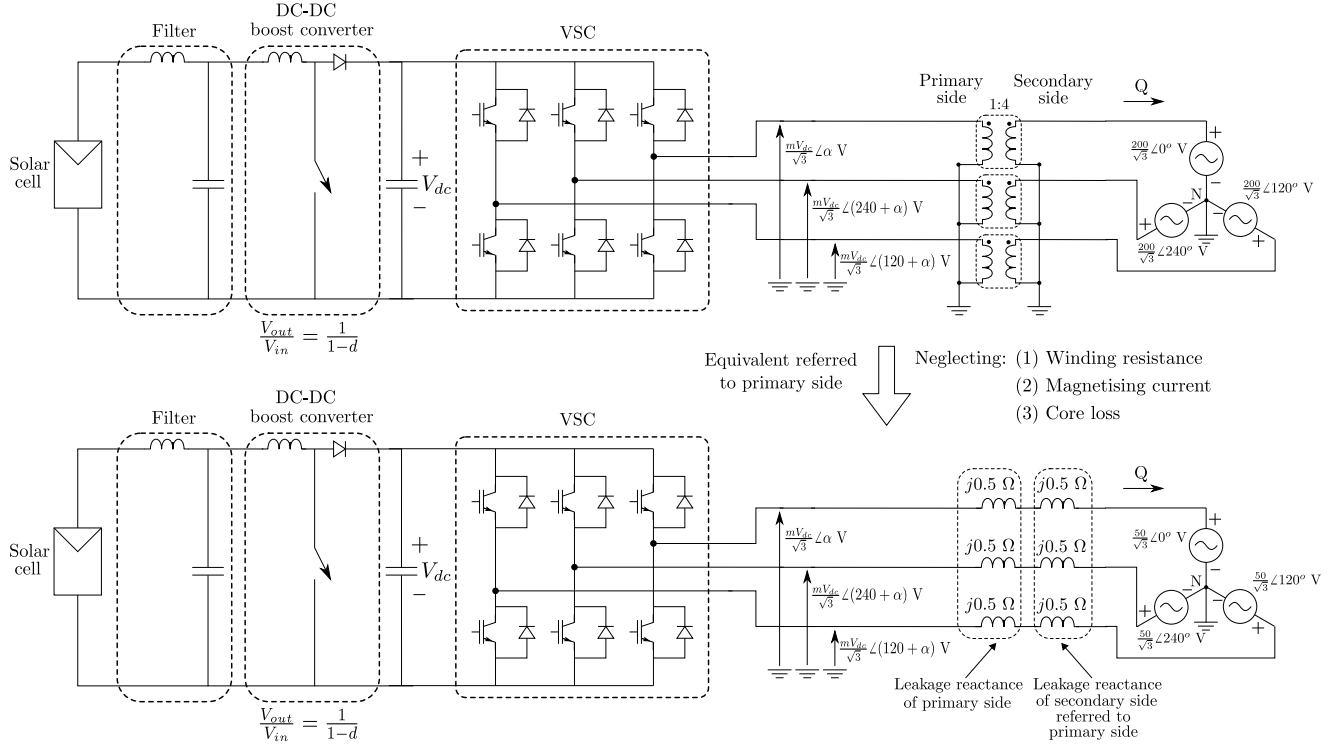

Figure 6: Schematic of Problem 12
12. The solar module described in the previous section is connected to a lossless DC-DC boost converter (instead of a resistor). The output of the converter is then connected to a lossless three-phase VSC in order to inject power into the AC grid, as shown in Figure 6.